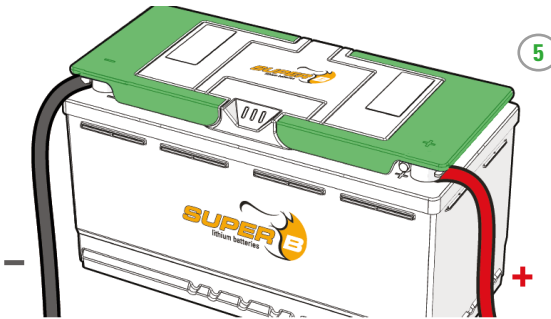

Figure 11. Place the handle covers over the terminals
5. Place the handle covers over the terminals. (Figure 11)
4. Place the handle covers over the terminals. (Figure 11)